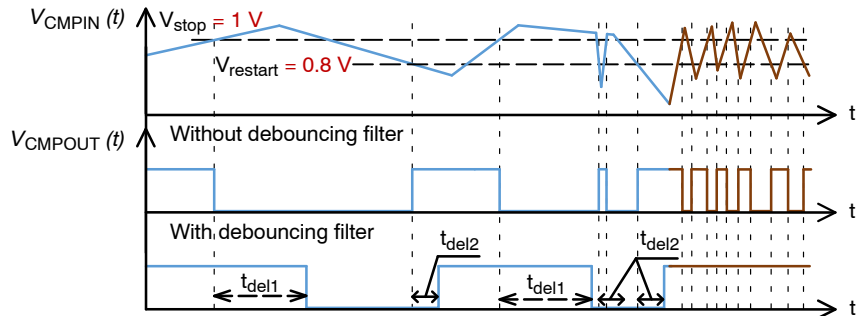

Figure 52. Over-temperature/Over-current Detection with/without De-bouncing Filter
Over-temperature detection is based on pull-down PTC thermistor connected to CMPIN pin. Internal current source force the current value $I_{\text{ref1}} = 120 \mu\text{A}$ through the PTC. If the over-temperature condition appears, the resistance of the PTC thermistor increases, i.e. the sensed voltage reaches the value $V_{\text{stop}} = 1 \text{ V}$ and the comparator turned-on the internal MOSFET, which force the CMPOUT pin to the Low state. The de-bouncing time constants $t_{\text{del1}} = 50 \mu\text{s}$ and $t_{\text{del2}} = 10 \mu\text{s}$ on comparator output can be implemented as an option. The CMPOUT pin goes back to High Z state, when the sensed voltage on PTC decreases below the value $V_{\text{restart}} = 0.8 \text{ V}$. Figure 52 shows the comparator operation with/without de-bouncing filter based on input voltage on CMPIN pin.